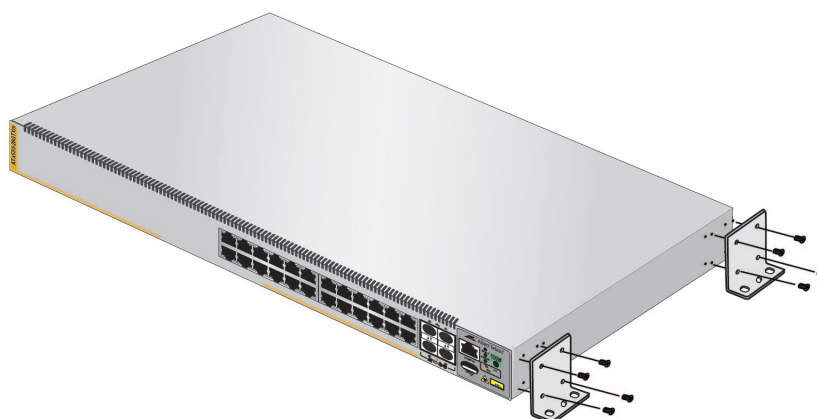
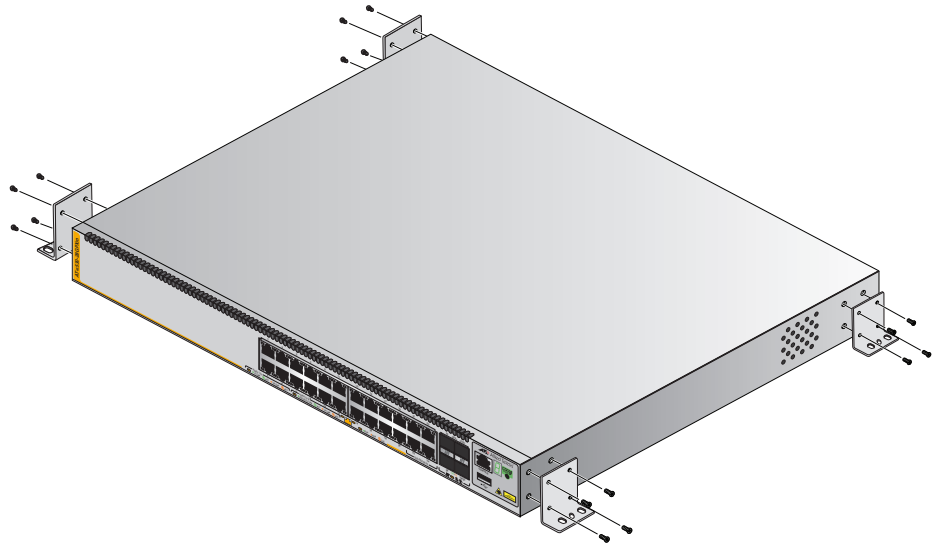

Figure 40. Installing Two Brackets on the AT-x530-28GTXm or AT-x530-52GTXm Switch
Figure 41. Installing Four Brackets on the AT-x530-28GPXm or AT-x530-52GPXm Switch
2. For the AT-x530-28GTXm or AT-x530-52GTXm switch, install two wall/equipment rack brackets to the sides of the unit with the eight M4x6mm screws included with the switch. Refer to Figure 40 on page 102. For the AT-x530-28GPXm or AT-x530-52GPXm switch, install four wall/equipment rack brackets to the sides of the unit with the 16 M4x6mm screws included with the switch. Refer to Figure 41 on page 103.